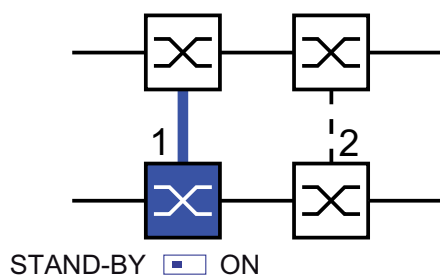

Figure 30: Two-Switch coupling
- Select "Two-Switch coupling" by means of the dialog button with the same graphic as below (see figure 30).